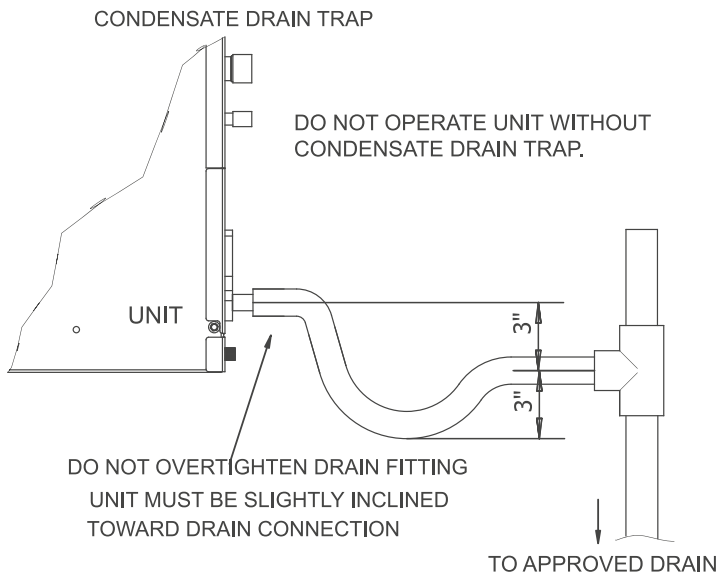

Fig5 Condensate drain trap
- Make sure unit is level or pitched slightly toward primary drain connection so that water will drain completely from the pan. (See Fig. 5)
- Make provisions for disconnecting and cleaning of the primary drain line should it become necessary. Install a 3 inch trap in the primary drain line as close to the unit as possible. Make sure that the top of the trap is below connection to the drain pan to allow complete drainage of pan (See Fig. 5).